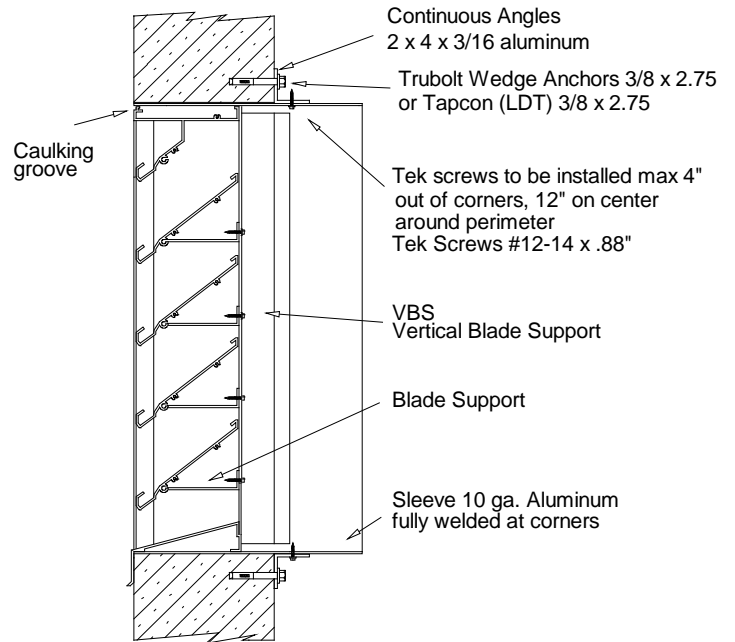

Fig. 3 – IC-638-3
1. **Anchoring into Concrete or Masonry:** See **Fig. 3** Model **IC-638-3** for detailed instructions.